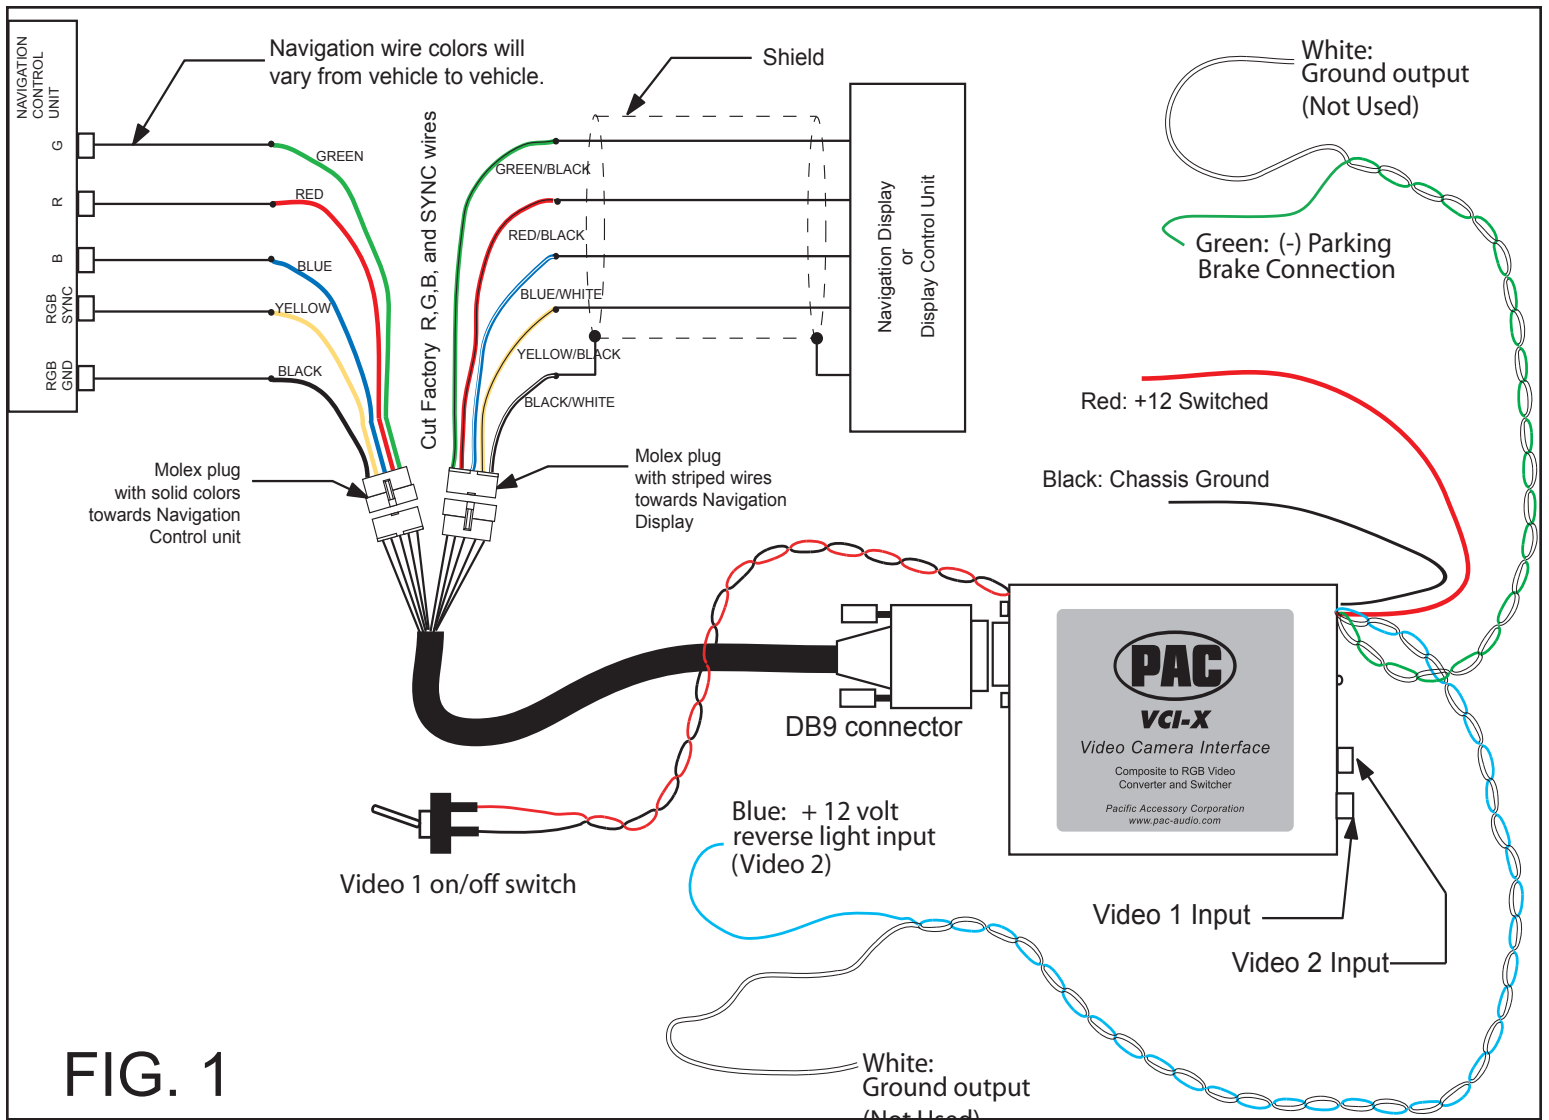

FIG. 1
1. Locate the R, G, B and SYNC wires on OEM navigation unit (usually located in trunk, glove box, rear side panel or center console. Read vehicle's owner manual to locate the navigation unit.) and cut these wires in half. If the wires are in a braided shield (typically a DIN cable), cut the insulation and braided shield wire to expose the individual wires. Connect the VCI-X's 6 pin Molex plugs as shown in FIG. 1.